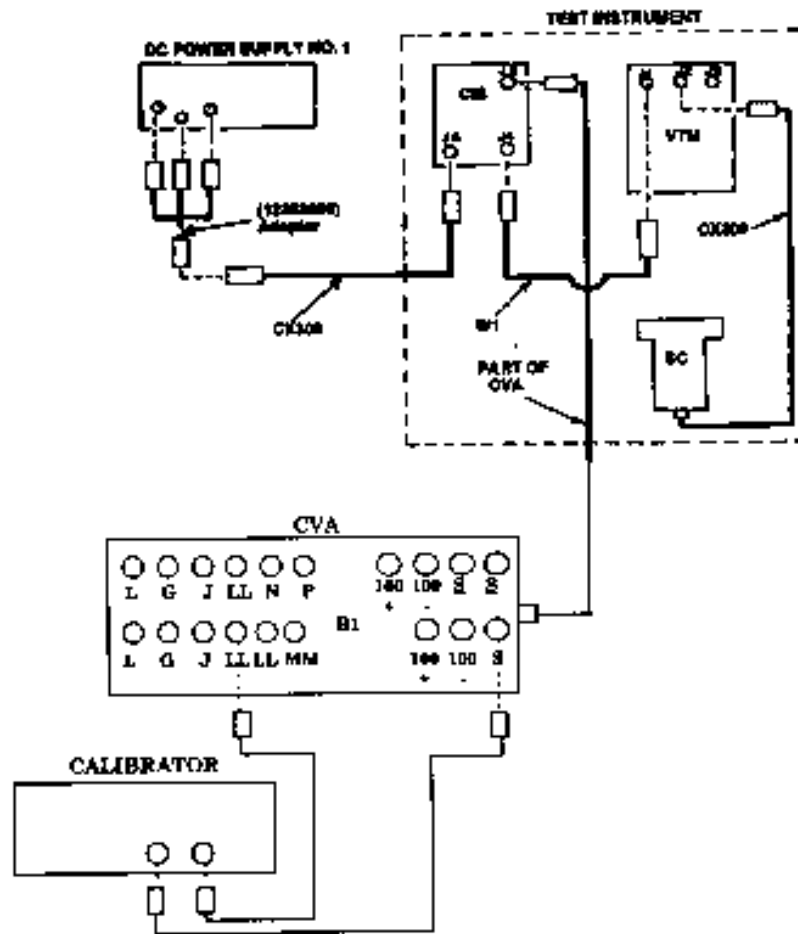

Figure 9. Frequency accuracy - equipment setup.
(1) Connect – (negative) lead from digital multimeter to S terminal on CVA.
(2) Connect + (positive) lead from digital multimeter to G terminal on CVA.
(3) Using **DATA ENTRY** keys, enter **66664** on set communicator and press **GO** key. Digital multimeter will indicate between -0.083 and +0.083 V.
(4) Press set communicator **STOP** and **CLEAR** keys.
(5) Repeat technique of (2) and (3) above for CVA terminals N, LL, H, P, and MM (fig. 9). Digital multimeter will indicate between -0.083 and +0.083 V at each terminal.
(1) With - (negative) lead from digital multimeter connected to S terminal on CVA and + (positive) lead connected to G terminal, enter **66665** on set communicator and press **GO** key. Digital multimeter will indicate between +9.15 and +9.85 V.
(2) Repeat technique of (1) above with + (positive) lead from digital multimeter connected to CVA terminals N, LL, H, P, and MM (fig. 9). Indication on digital multimeter will remain between +9.15 and +9.85 V.
(3) Using **DATA ENTRY** keys, enter **66666** on set communicator and repeat (1) and (2) above. Digital multimeter indications will remain between -9.15 and -9.85 V.
(1) Connect equipment as shown in figure 9.
(2) Adjust controls of calibrator for 3 V, 400 Hz output.
(3) Using **DATA ENTRY** keys, enter **66658** on set communicator and press **GO** key. Set communicator will indicate between 380 and 420.